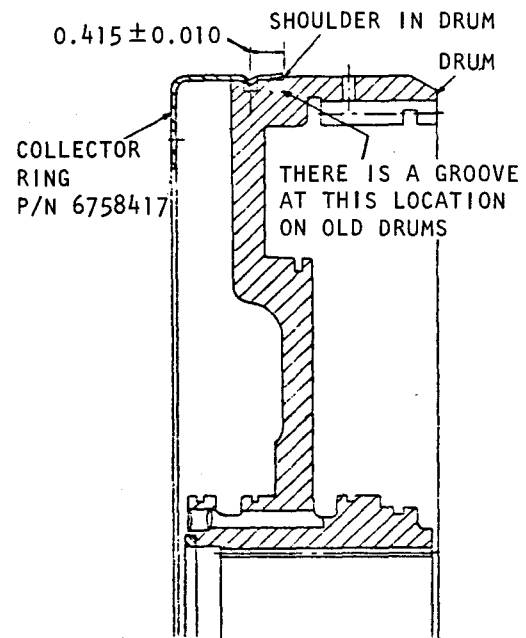

Fig. 6-15. Assembly of collector ring to clutch drum
(1) Coil the expanders as shown in figure 6-15. Inspect the ends for curvature toward the bottom of the groove (inward for external grooves; outward for internal grooves).
(2) Install the expander into the groove.
(3) Starting at a point opposite the open ends of the expander, install the Teflon sealring.